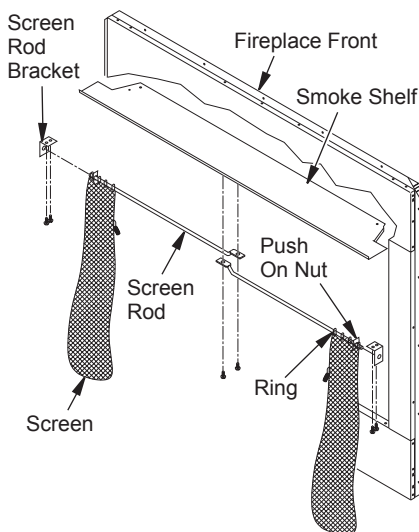

Figure 34 - Installing Fireplace Screen
1. Mount screen rod brackets on left and right side of firebox with #8 x 1/2" screws provided (see Figure 34).
4. Mount flat end of screen rod with #10 x 5/8" to center of smoke shelf (see Figure 34).
2. Mount top door frame and secure with screws provided (see Figure 34, page 29).